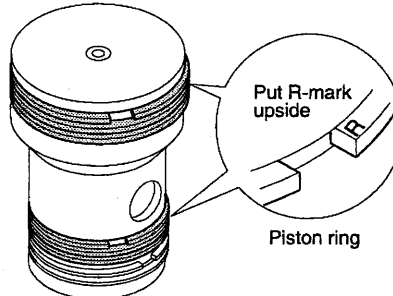

Fig. 36
- (1) Three piston rings are set on the 1st stage and three piston rings are set on the 2nd stage.
- (2) Check direction of the ring (face and back) and extent of wear. (Fig. 36)